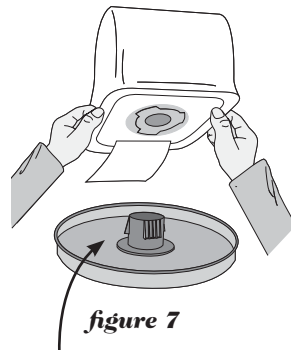

figure 7
6. Install the new bag, ensuring the notches are aligned with the tabs on the adaptor (**figure 7**). Then rotate so they are slightly misaligned, and thus ensure bag retention.